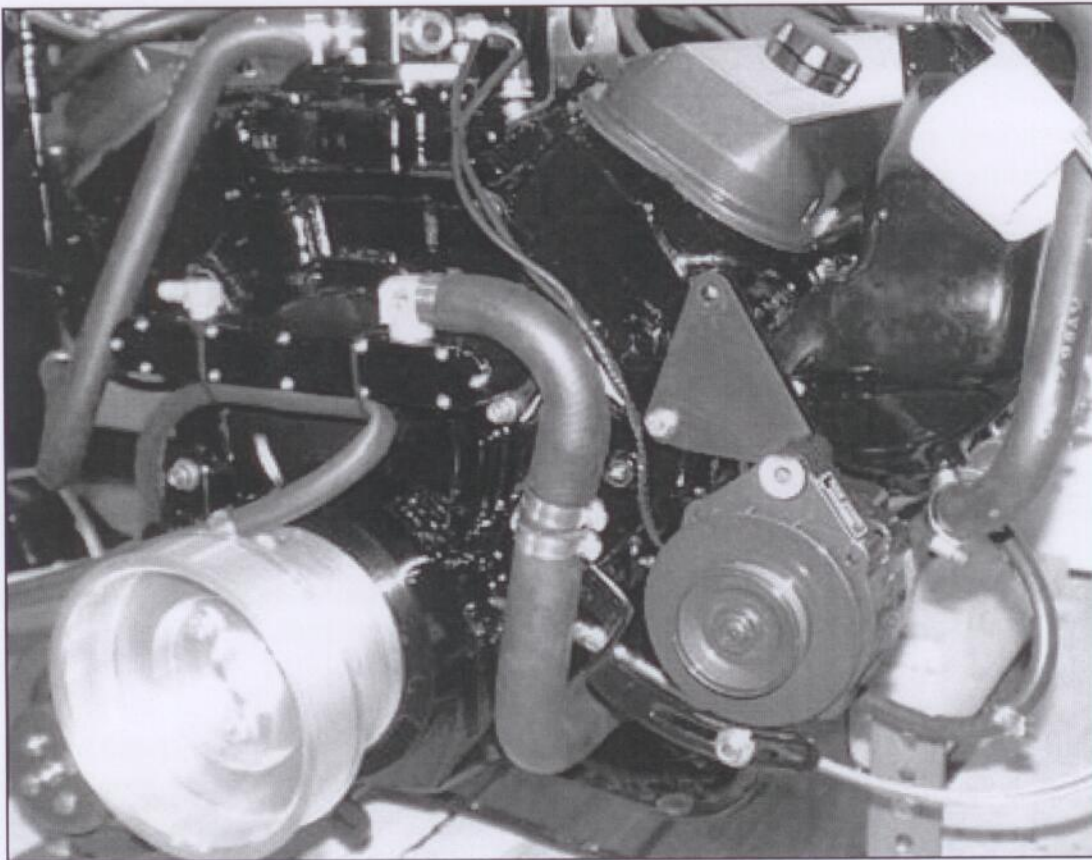

FIGURE A2
7. Using the supplied straight metal connector, clamp the supplied 90°x1 1/4" rubber elbow between the discharge hose of the power steering cooler and the fitting on the crossover tube installed in step 6. (refer to Figure A2)